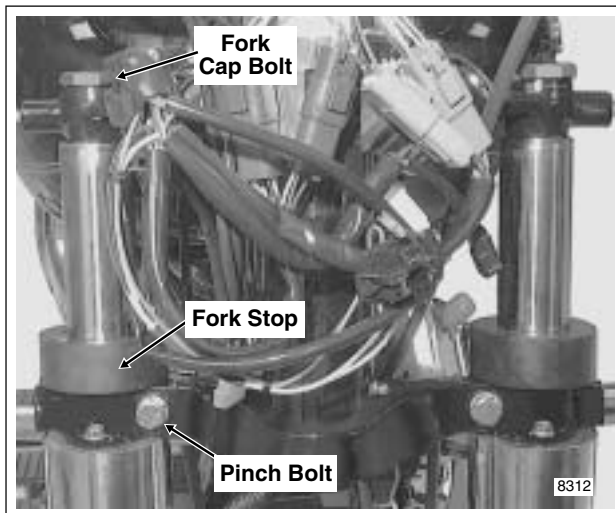

Figure 2-69. Remove Fork Cap Bolt (FLHR/C/S Shown)
3. Remove fork cap bolt from fork tube plug at top of fork tube. See Figure 2-69.
- Standing at front of vehicle, loosen pinch bolt (with lock-washer) on left side of lower fork bracket, but do not remove. See Figure 2-69.